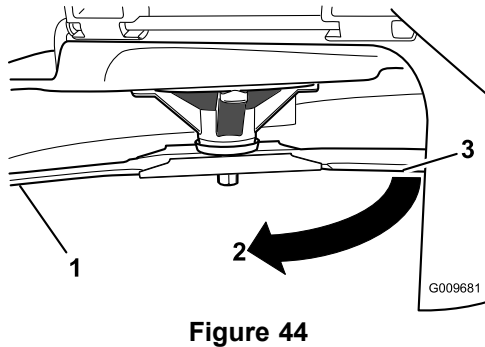

Figure 44
3. Measured distance between the blade and the surface (A)
4. Rotate the same blade 180 degrees, so that the opposing cutting edge is now in the same position (Figure 44).